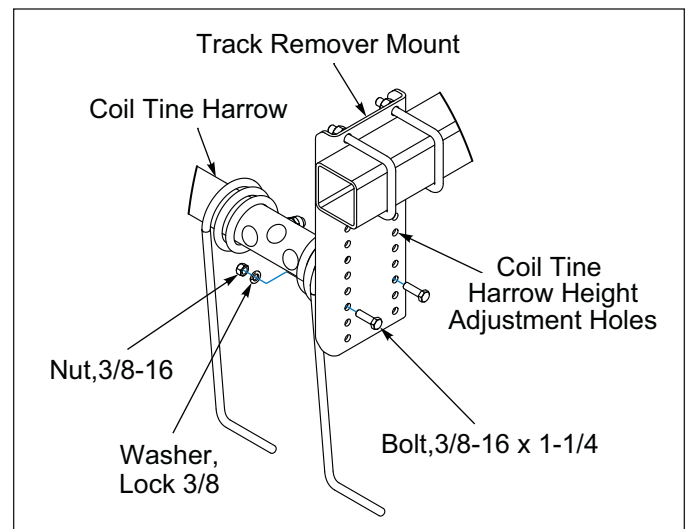

Figure 3-18: RH & LH Harrow Height Adjustment
3. The height of the Wing Coil Tine Harrows can also be adjusted by raising or lowering the Harrow Mount Bracket in the Track Remover Mount. **See Figure 3-18.**